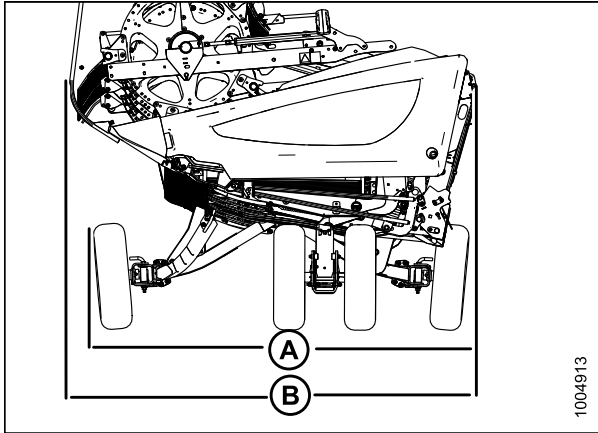

Figure 3.1: Header Width
1. Refer to Figure 3.1: Header Width, page 31
2. Refer to Figure 3.1: Header Width, page 31